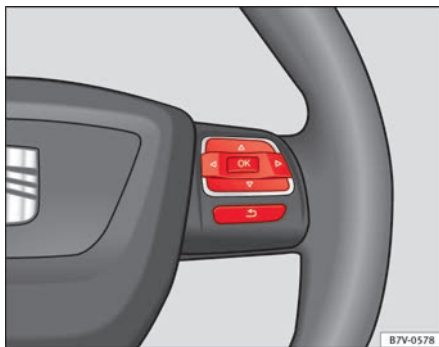

Fig. 38 Right side of multifunction steering wheel: Buttons to access the instrument panel menus.
- If a message or vehicle symbol is displayed, press **OK** (⇒ fig. 37 **A** or ⇒ fig. 38).